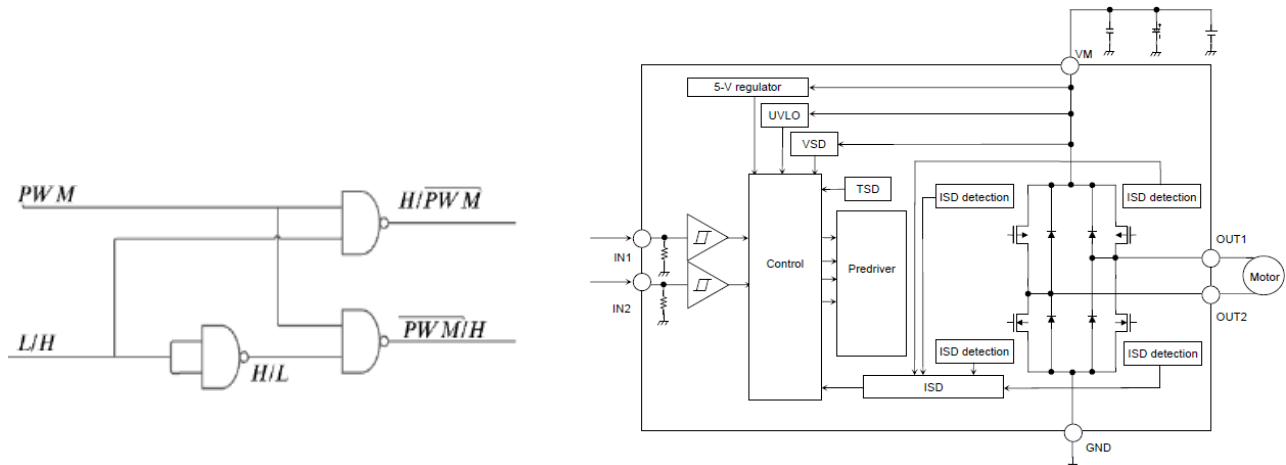

Figure 3.7: PWM driver circuit using the TB6568KQ motor drive chip.
1. Connect the PWM signal (e.g. D9) and a digital output pin of Arduino (e.g., D12, D13, ...) to the L/H pins (see Fig. 3.7) and the output to IN1 and IN2 of the TB6568KQ drive chip.